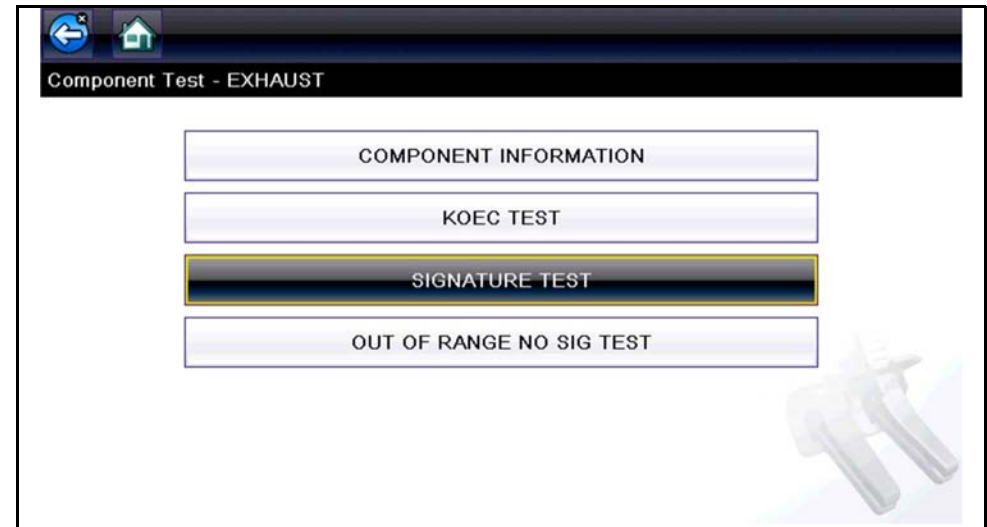

Figure 4-11 Component Test Menu
2. Select a **Test** from the Component Test menu (Figure 4-11).